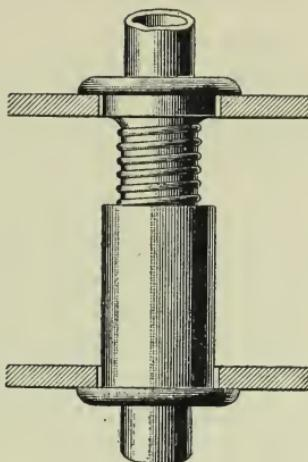

FIG. 66
**95.** The **Vasburg adjustable sleeve**, shown in Fig. 66, has a thread that allows the length to be adjusted and